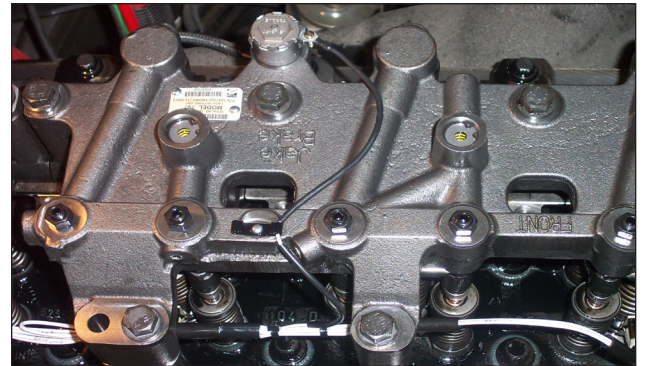

Fig 15
8. Attach solenoid wires to solenoid and engage wires in wire retainer clip. (See Fig. 15)